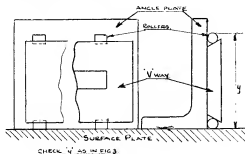

Fig. 5
(6) The V-way, part No. 5, will have to be made before any further assembly can be done. The essential features of this part are that it should be scraped flat on all faces except the ends and that it should have a uniform thickness equal to that of the side-pieces, items 3 and 4. It should, when finished, comply with the test shown in Fig. 5. As before it is emphasised that all sawing, filing and drilling should be done before any scraping is undertaken.
(7) The gib, item 6, is simple in shape but difficult to hold while it is being worked. One method is to secure it to a piece of wood with small nails round its edges. The wood is then held in the vice and both sides of the gib filed and scraped flat.